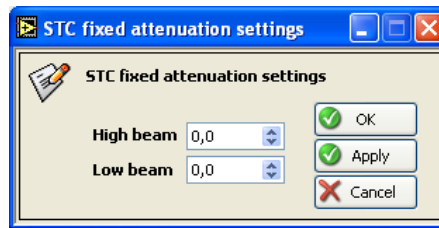

Figure 4-28: STC fixed attenuation settings
- **STC:** you can select the automatic STC generation or fixed. When the automatic mode is selected the content of the flash in the PCT unit will be used as STC. If you select the fixed mode, the values given in the setting window are used (see Figure 4-28). You can find these settings in the menu under Settings ↪ STC fixed attenuation settings